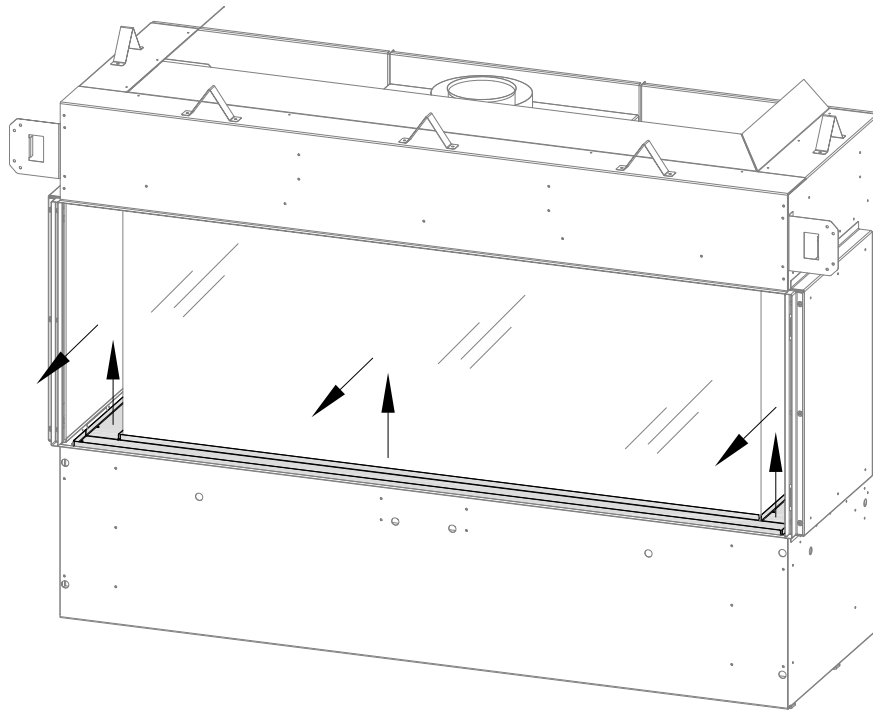

Figure 4.3 - Removing Exterior Media Tray
1. Remove the exterior media tray by lifting it up and out of the slot it is installed. See Figure 4.3.